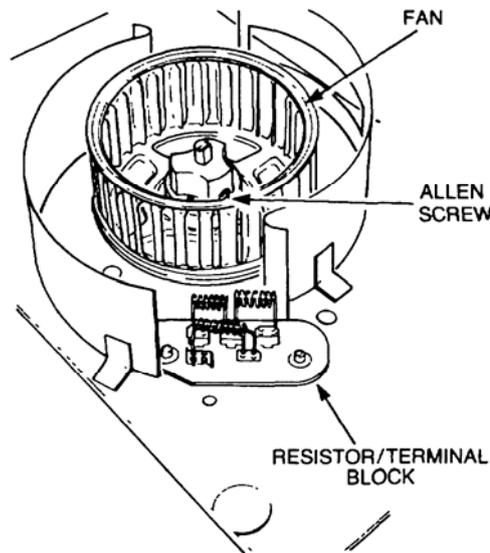

Figure 25 Heater Fan Removal
- j. Using a suitable Allen key, slacken the Allen screw and remove the fan (refer Figure 25).